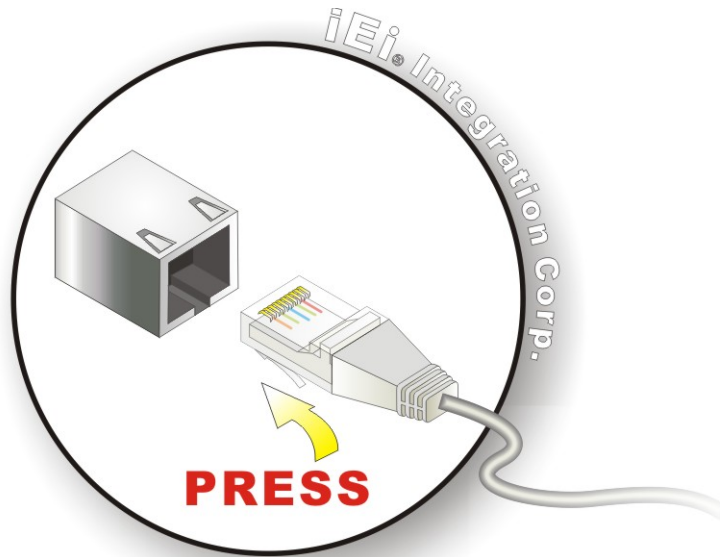

Figure 4-10: LAN Connection
Step 2: **Align the connector.** Align the RJ-45 connector on the LAN cable with the RJ-45 connectors on the NANO-SE-i1/KBN-i1/GLX. See **Figure 4-10**.